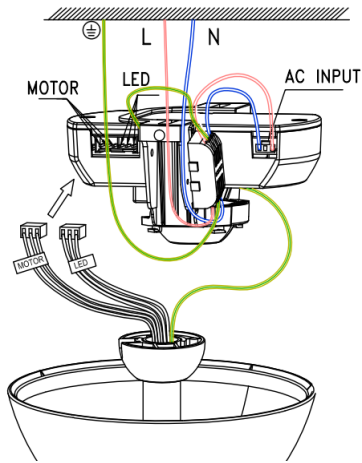

Fig 7.1
See Fig 7.1
- Slide receiver into position in the hanging bracket making sure the AC input connector on the receiver is aligned with the AC port on the receiver. Refer Fig 7.1 on page 7